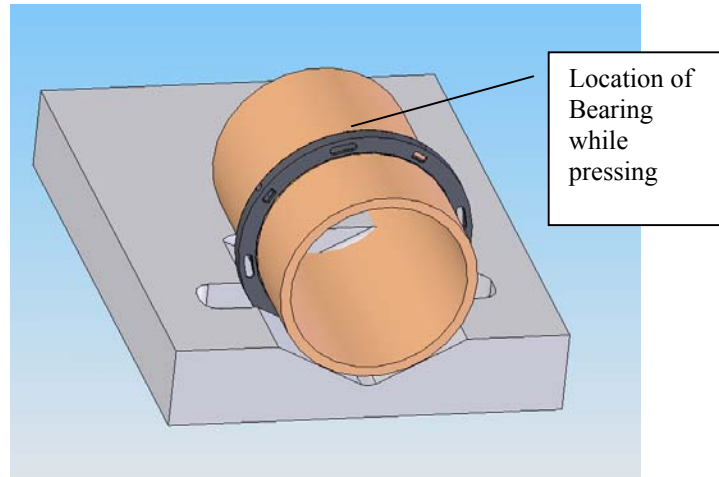

Figure 3: Release Ring shown over Cylinder in Bearing Installation Set-Up
5. Press one bearing onto the end of the THM-SPB-MEC-456 shaft, side 'B'. (Bearing Part Number Dynaroll # SR144ZZMC3 3GM6.) End of 'B' side of shaft to be flush with end of bearing. Use custom Arbor Press (with canted surface and cylindrical piece) and proper tool end. See Figure 3.
7. Pre-position a bearing into the opening of the Release Ring, line up the centerlines of bearing and ring. Place three spacers as shown in Figure 5. Place the bearing and ring into the press (see figure 3). Using the Axle and pin (from step 5), press Side 'A' thru the ring, the pre-positioned bearing and spacers, and back into the ring flange.